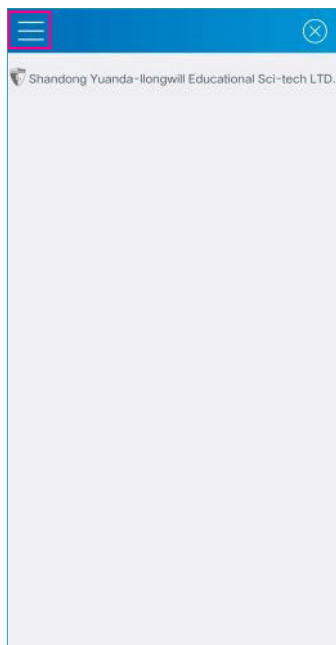
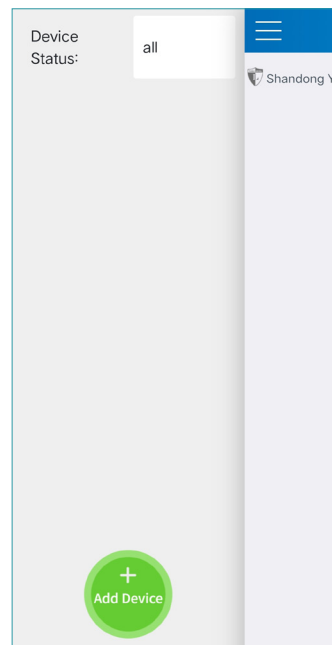

Figure 15
Figure 16
2. Click the "Menu" button on the upper left (as shown in Figure 15) to open the menu page (as shown in Figure 16).